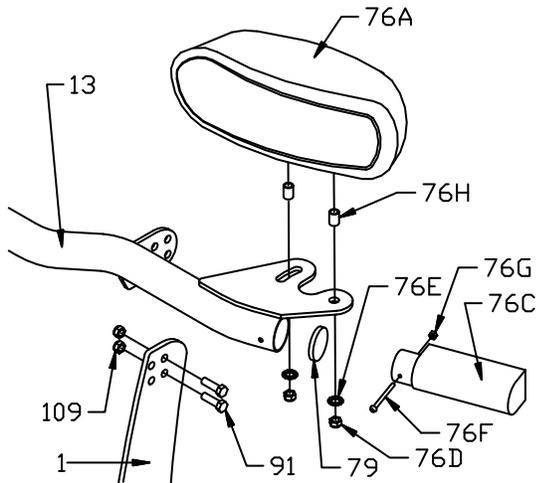

Figure 14. Headlight Mounting Assembly G10115
26. Insert Light Bar Seal (79) into the Light Bar and seat it using the end of the Turn Signal (76C).
27. Attach Turn Signal (76C) into the end of Light Bar (13) using one Machine Screw (76F) and Nut (76G).
28. Bolt Driver's Side Headlight (76A) on to Light Bar (13) using two bushings (76H), 1/2" Nuts (76D) and 1/2" Star Washers (76E) as shown in Figure 14.